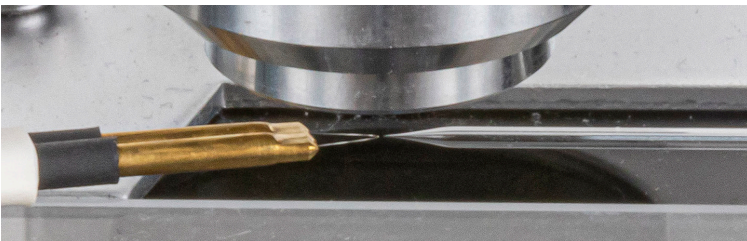

Fig. 9—Filament in position
9. While looking at the glass tip, move the filament side to side until you see the shadow of the filament in the microscope. Stop and adjust the vertical adjustment knob (filament focus) so that the filament moves down (counter clockwise) and into focus. Adjust the horizontal adjustment knob (filament centering). The optimal distance to the glass tip depends on the forging application (Fig. 9).